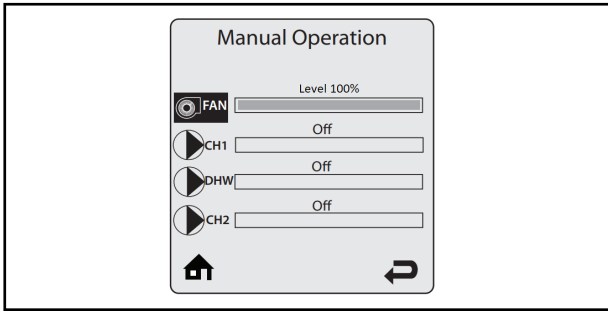

Fig .6
- Operate boiler to High Fire 100% in service mode (Fig.6).
- If minimum CO₂/O₂ is still below allowed specification tolerance contact triangle tube technical support. Tel: (856) 228 8881
- Operate appliance to High Fire 100% (Fig.6) Record High Fire CO₂/O₂ in Table 3 – 3.A).